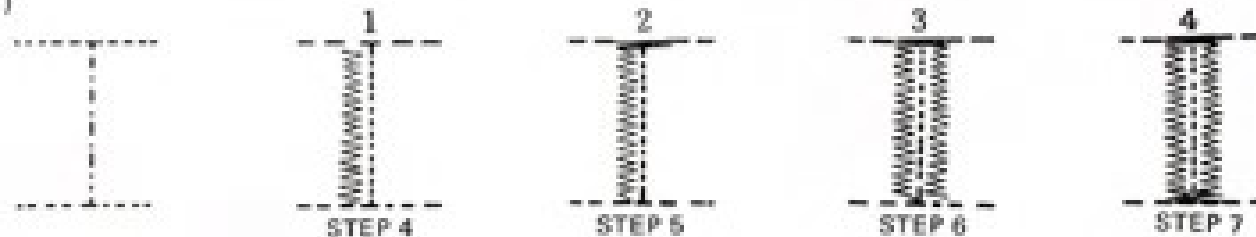

Fig. 37
See Fig. 37.
- (1) Remove presser foot and replace with special purpose button sewing foot. (Fig. 37)
- (2) Push drop feed button "DOWN" down all the way.
- (3) Select "0" position on the zigzag width control dial and manual pattern ( $\frac{2}{3}$ ) on the decorative stitch pattern dial.
- (4) Place the button so that its left hole comes directly under the needle.